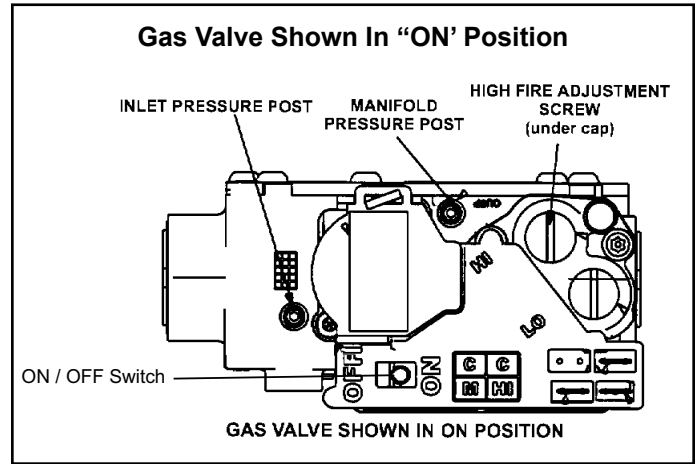

Figure 65.
6. Move gas valve switch to OFF. See Figure 65.
8. Move gas valve switch to ON. See Figure 65.
1. A manifold pressure post located on the gas valve provides access to the manifold pressure. See Figure 65. Back out the 3/32 Hex screw one turn, connect a piece of 5/16" tubing and connect to a manometer to measure supply pressure.
6. Repeat on high fire and compare to value given in Table 29. If necessary, make adjustments. Figure 65 shows location of high fire and low fire adjustment screws.